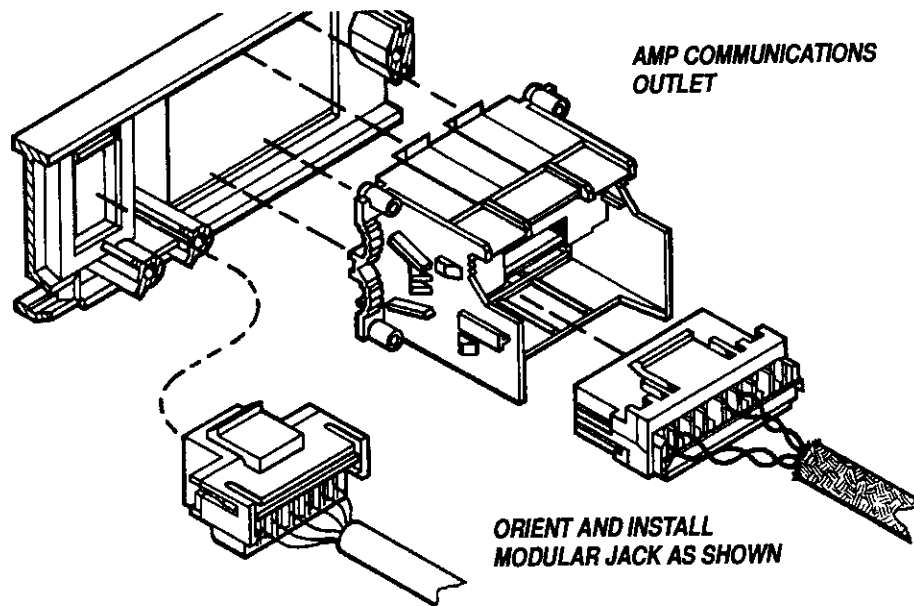

Figure 3
3. Install AMP Communications Outlet and modular jack into frame (see Figure 3).
1. Install AMP Communications Outlet and modular jack into frame (see Figure 3).